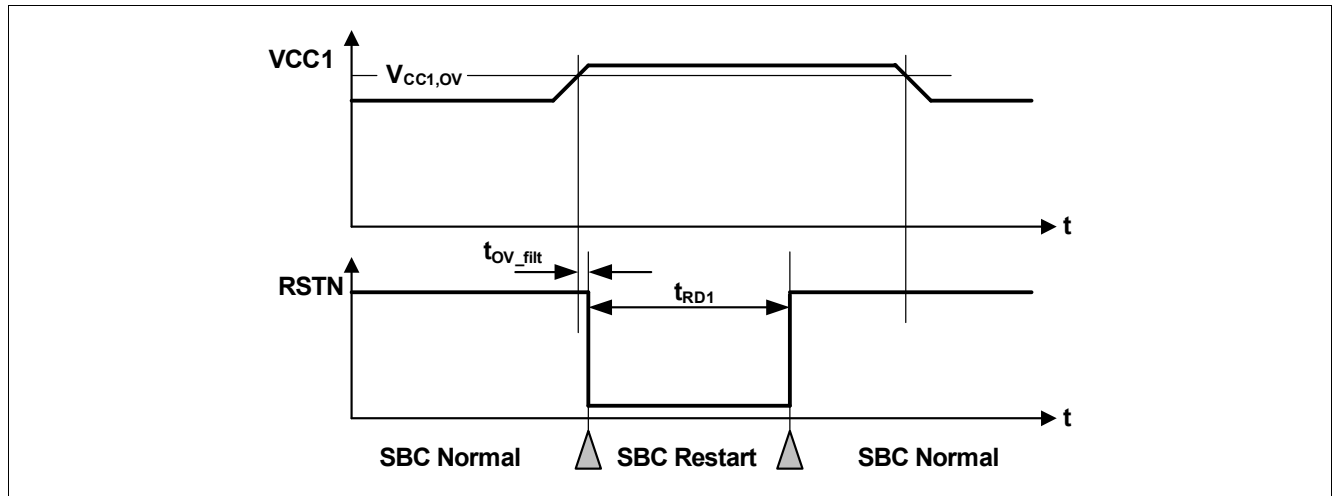

Figure 38 VCC1 Over Voltage Timing Diagram
- If the bit **VCC1_OV_RST** is set and **CFG0_STATE** = '1', then SBC Restart Mode is entered. The FO output is activated. After the reset delay time (t_{RD1}), the SBC Restart Mode is left and SBC Normal Mode is resumed even if the VCC1 over voltage event is still present (see also **Figure 38**). The **VCC1_OV_RST** bit is cleared automatically;